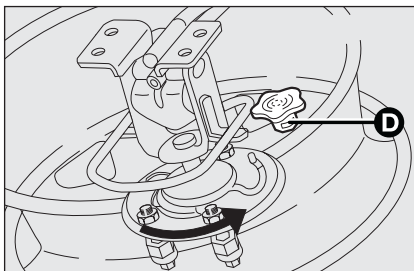

fig. 9d
- reattach the wheel to the support turning it until the end of the slot (as illustrated in fig. 9d) and tighten the knob **D**-fig. 9d;